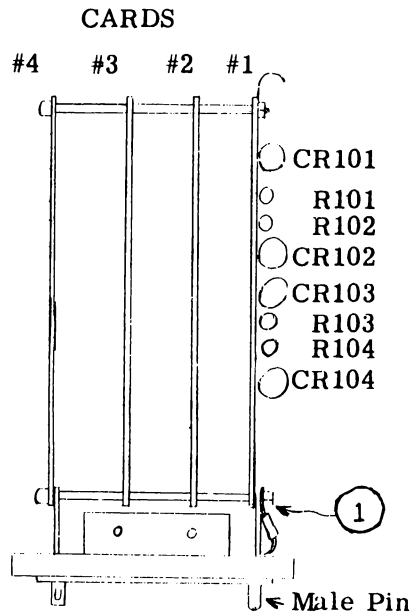

Figure 3-15
a. Ring tongue terminal grounds must be tight. (1, Figure 3-15.)